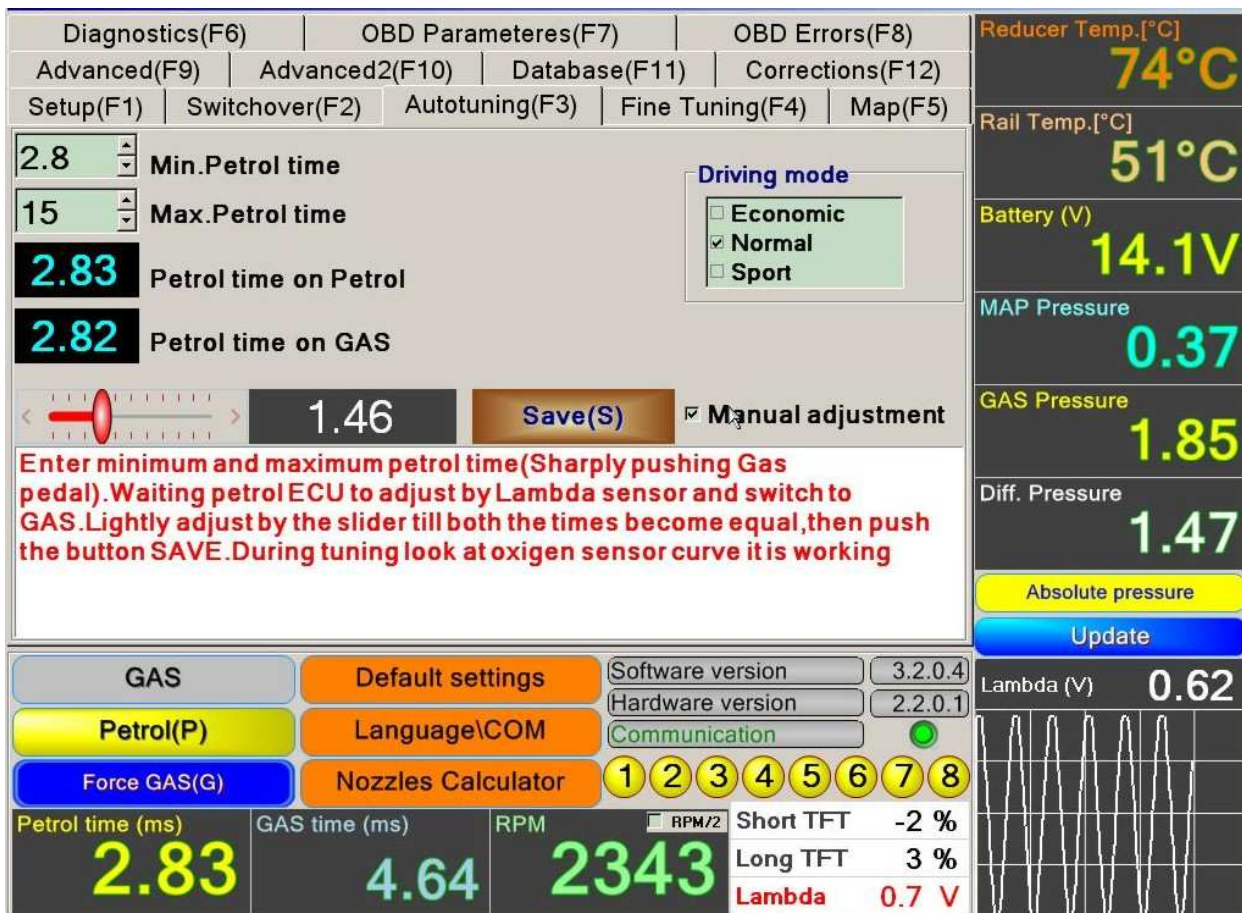
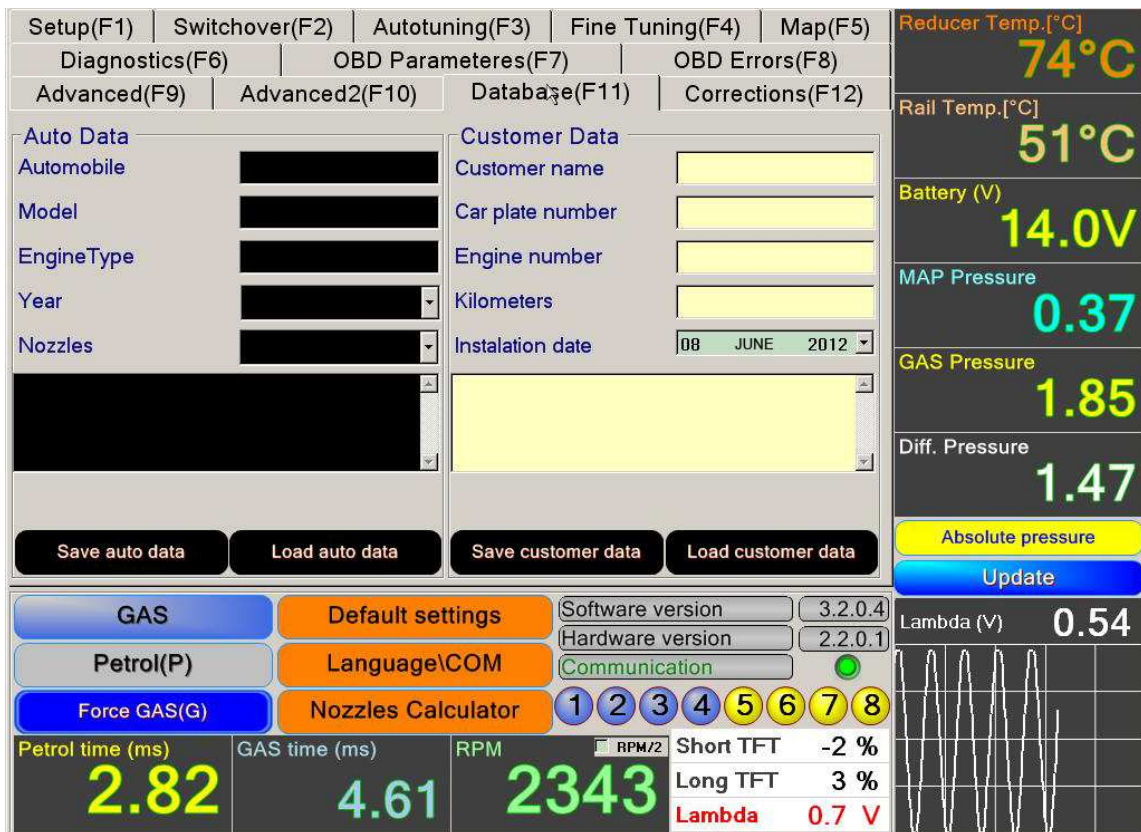

FIG.6
FIG.9
10. MANUAL ADJUSTMENT (F3)– FIG.6
2. In the bottom square is shown the petrol injection time when the engine runs on LPG. You have to reach both values almost equal – it could be done by slider - changing the current coefficient, push the “SAVE” button to record into the ECU. For more precise adjustment you can do it by using the coefficients in the menu “Fine tuning” /FIG.6/ when the car is moving on different road types, to ensure more loads for the engine and speeds. In the menu you have push button “calculate map”. This is the connection between the linear adjustment with coefficients and the 3-size map, which is table of coefficients, depending from petrol time and RPM. This button gives you possibility to switch from easy to more detailed adjustment. Driving the car with constant RPM and gas pedal (fixed TPS), you see the blue line on the petrol inj. time. You have to switch from petrol to LPG and move with arrows up or down current coefficient till the valve, when the petrol inj. time is equal on petrol and LPG running. The same procedure for different petrol times will give you more precise adjustment. By arrows of the neighbour coefficients you have to adjust them so, the red curve is slight falling down to the high /FIG.9/.
Note: If there are problems with coefficient adjustment you have to switch off the check box "Adaptation in open loop" (Fig.6)
14. MENU "DATA BASE" (F11) – FIG.9